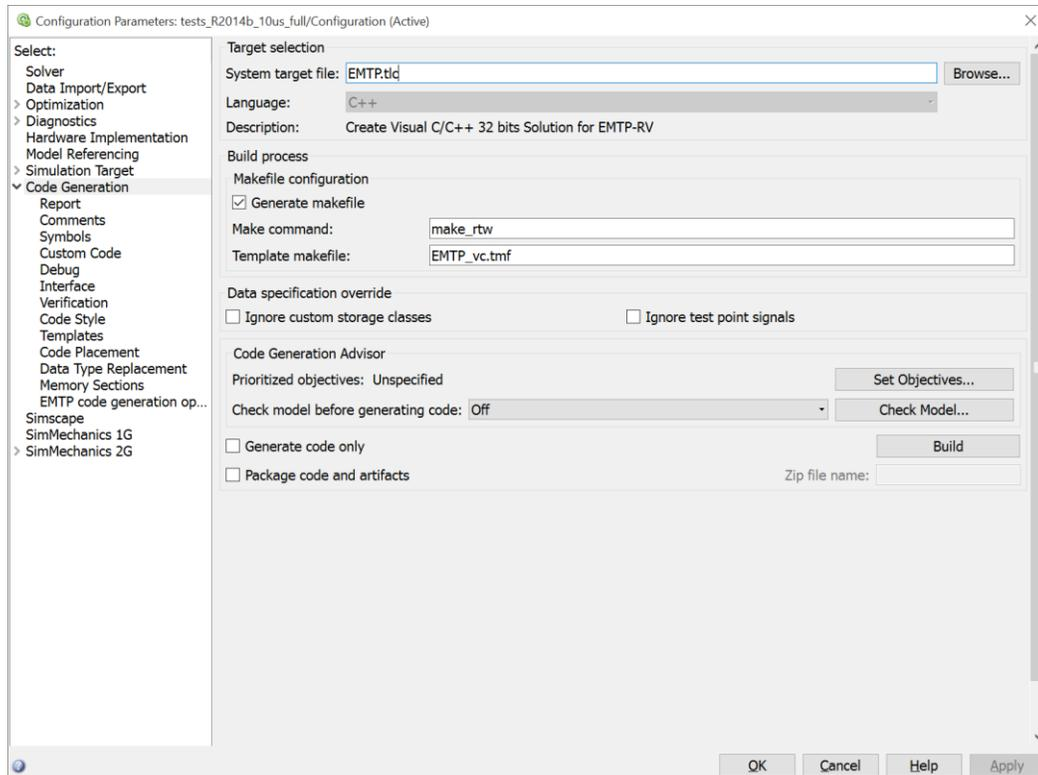

Figure 2 Simulink Model Configuration Parameters, Code Generation.
- a. It is necessary to locate and select the “System target file” EMTP.tlc using the Browse button as shown in Figure 2.
5. At this stage the setup is ready to generate the DLL by clicking on the Build button of Figure 2. If there are no error messages in MATLAB, then the build is successful and two new folders will appear in the same folder as the compiled model file folder: slprj and c_EMTP_rtw. In this example the ModelName_EMTP_rtw folder is tests_R2014b_10us_full_EMTP_rtw. The final DLL file of the model is also located in the same folder as the model file. Its generic name is ModelName.dll (tests_R2014b_10us_full.dll for this example).